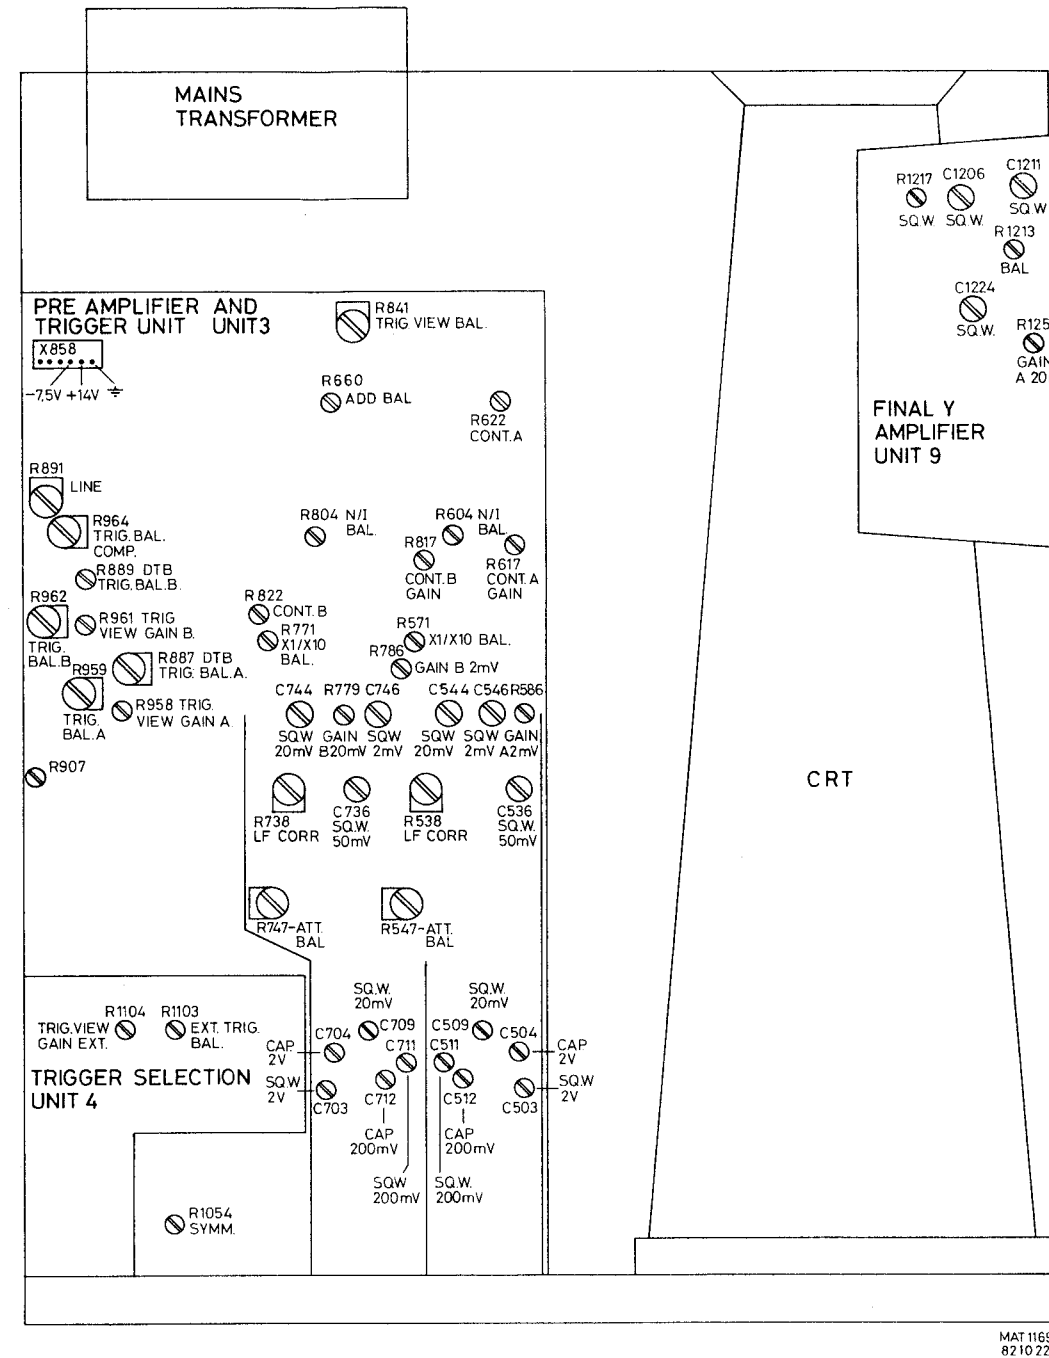

Fig. 5.2. Adjustment points bottom view
- Check at nominal mains voltage or battery supply voltage that the voltage on pin 3 of X858 (see fig. 5.2.) is $-7.5V \pm 0.3V$; if necessary readjust R1474 (fig. 5.3.).
- Connect a resistor of 130Ω (1.5W) across pin 2 (+14V) and pin 1 ($\perp$) of X858 (fig. 5.2.).